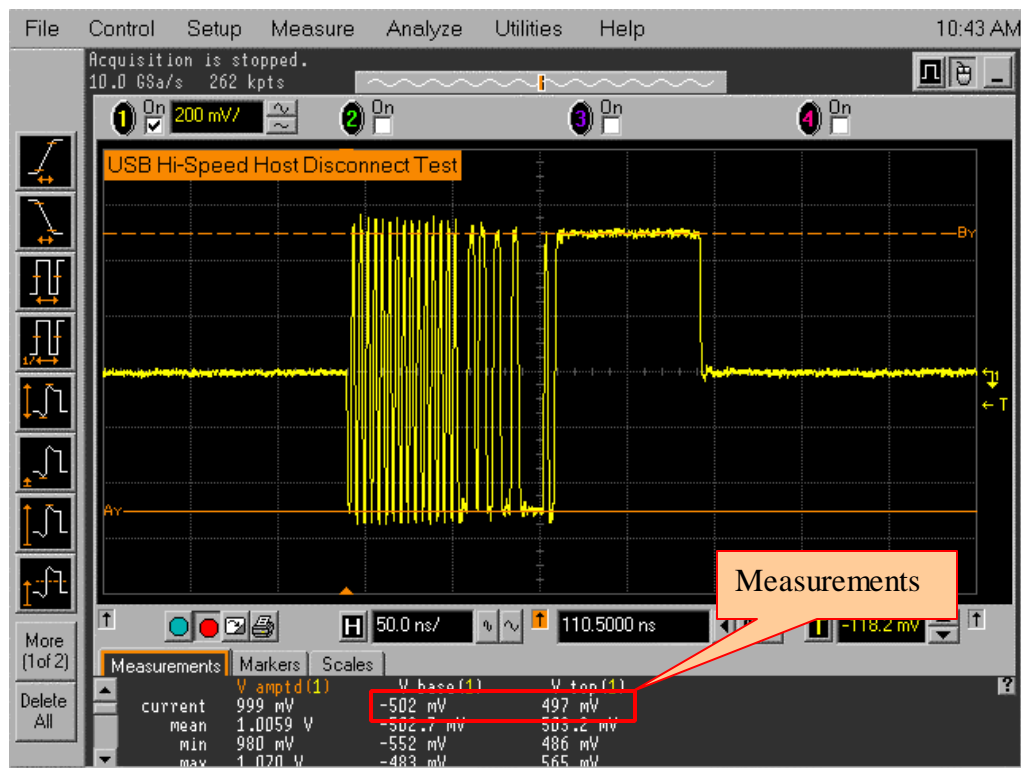

Figure 20. SOF Packets Transmitted by Port Under Test
6. Verify the SOF packets are being transmitted from the port under test (Figure 20)